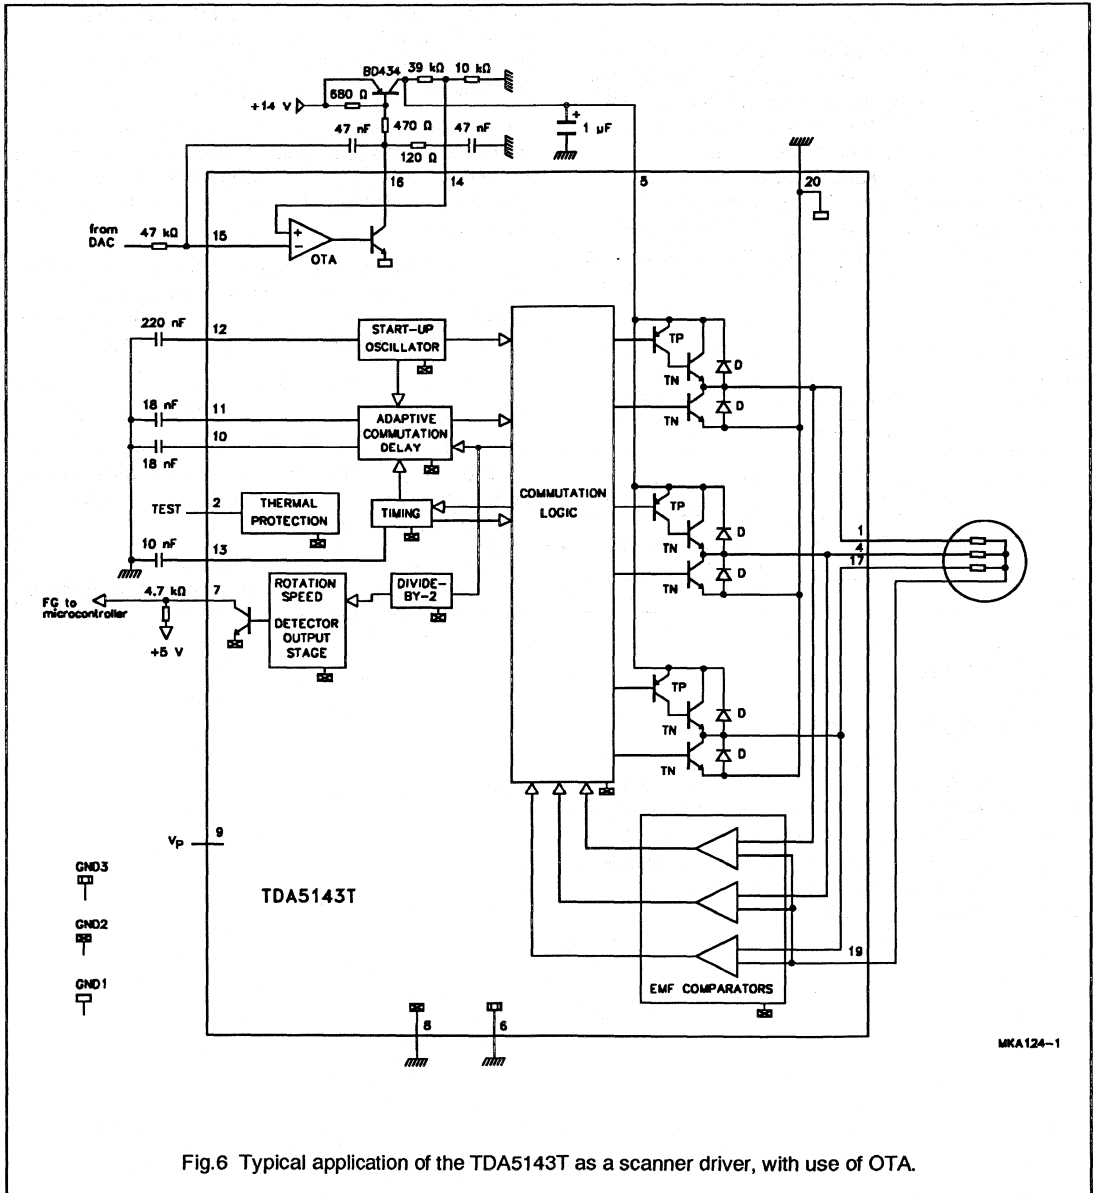

Fig.6 Typical application of the TDA5143T as a scanner driver, with use of OTA.
**Introduction (see Fig.6)**
For the analog control an external transistor is required. The OTA can supply the base current for this transistor and act as a control amplifier (see Fig.6).